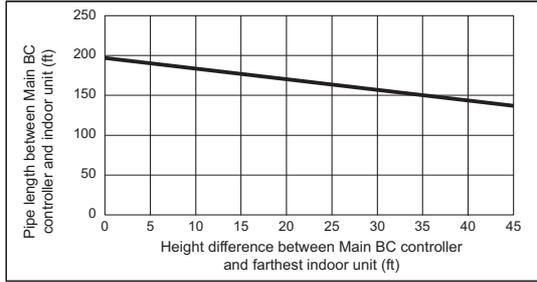

Fig. 2
*2. Details refer to Fig. 2.
*7. When the piping length or the vertical separation exceeds the limit specified in Fig. 2, connect a sub BC to the system. The restriction for a system with a sub BC connection is shown in Fig. 3. When a given system configuration falls within the shaded area in Fig. 3, increase the size of the high-pressure pipe and the liquid pipe between the main BC and sub BC by one size. When using P12, P15, P18, P36, or P48 model of indoor units, increase the size of the liquid branch pipe between the sub BC and indoor unit by one size.
When using indoor models P54 or larger, the restrictions shown in Fig. 2 cannot be exceeded.
*7. When the piping length or the vertical separation exceeds the limit specified in Fig. 2, connect a sub BC to the system.
The restriction for a system with a sub BC connection is shown in Fig. 3. When a given system configuration falls within the shaded area in Fig. 3, increase the size of the high-pressure pipe and the liquid pipe between the main BC and sub BC by one size. The maximum liquid branch pipe diameter is $\phi 19.05$. If a given system already has a $\phi 19.05$ -pipe between the main BC and sub BC, there is no need to increase the pipe size. When using P12, P15, P18, P36, or P48 model of indoor units, increase the size of the liquid branch pipe between the sub BC and indoor unit by one size. When using indoor models P54 or larger, the restrictions shown in Fig. 2 cannot be exceeded.